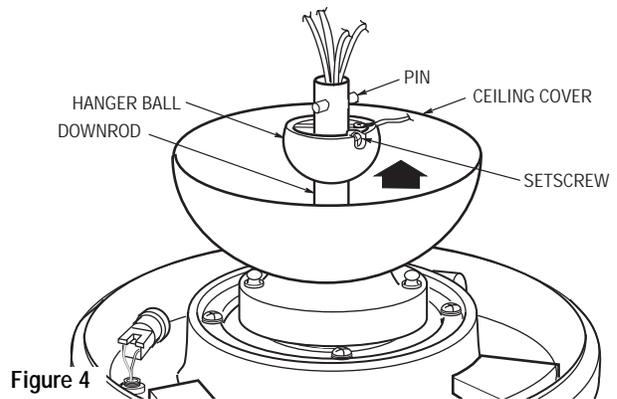

Figure 4
- 9. Position the ceiling cover over the downrod. Be sure the cover is oriented correctly, with the large opening at the top (Figure 4).
- 10. Reinstall the hanger ball on the downrod as follows. Route the motor leads through the hanger ball and slide the hanger ball over the downrod (Figure 4). Install the pin through the holes at the top of the downrod and slide the hanger ball up the downrod, aligning the ball so the pin is captured in the groove in the top of the hanger ball. Pull the hanger ball up tight against the pin and securely tighten the setscrew in the hanger ball. A loose setscrew could create fan wobble.